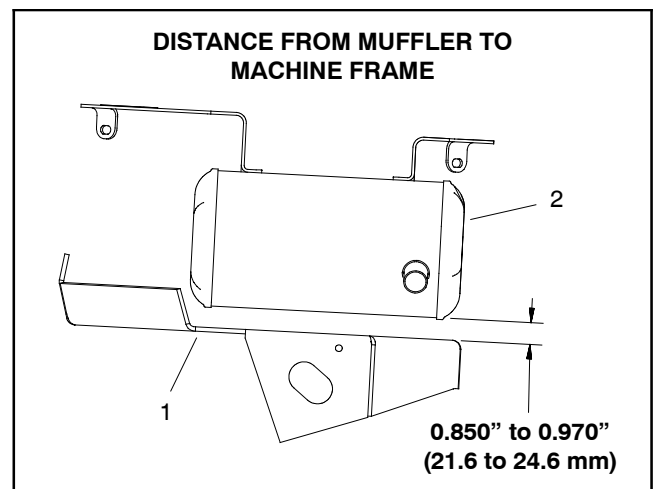

Figure 8
2. Support muffler so that distance between frame and muffler is from **0.850" to 0.970" (21.6 to 24.6 mm)** (Fig. 8).